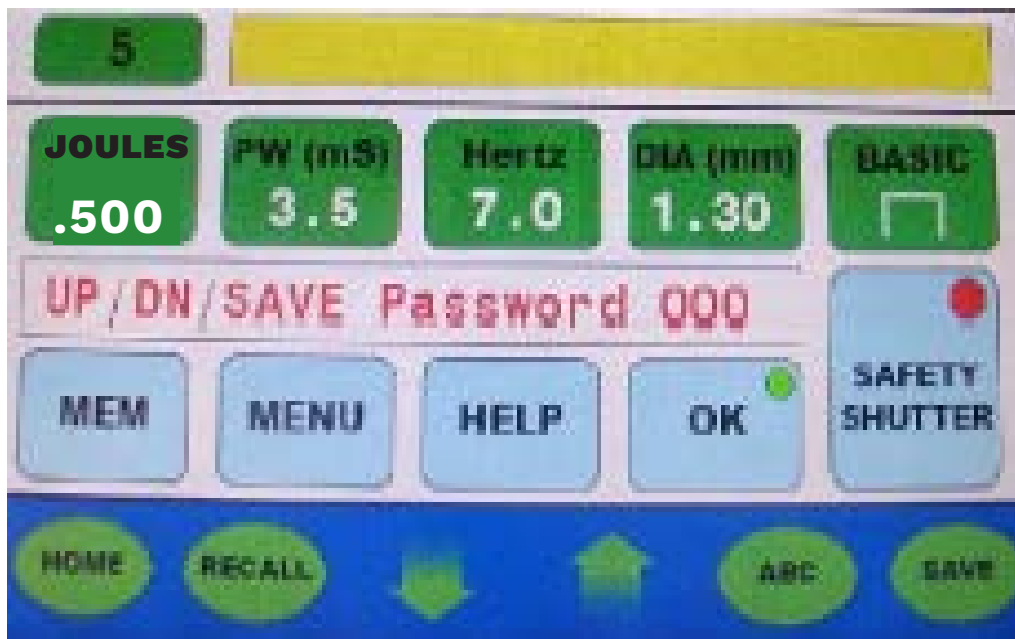

Figure 6
1. Press the **menu button** on the password screen; the first digit “4” will begin to blink (**figure 6**).